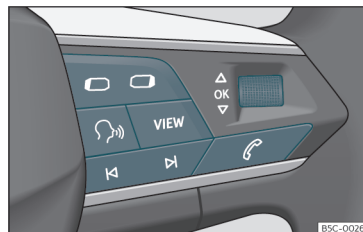

Fig. 60 Right side of the multifunction steering wheel: buttons to the menus and information displays on the instrument panel.
As long as a priority 1>>> page 71 warning is active, it will not be possible to access any menu. Some warnings can be confirmed and hidden with the button **OK** of the multifunction steering wheel>>> **Fig. 60**.
- If a message or vehicle symbol is displayed, press the button **OK**>>> **Fig. 60**; if necessary, several times.
- To change menus, use buttons  or  >>> **Fig. 60**.
- To open the menu or the information displayed, press the button **OK**>>> **Fig. 60** or wait
- In the menu displayed, turn the right thumbwheel of the multifunction steering wheel»» Fig. 60 until the desired option of the menu is highlighted. The option appears framed.
- Press the button **OK**»» Fig. 60 to make the required modifications. A mark indicates that the system or function is activated.
Press the button **○** or **○**»» Fig. 60.